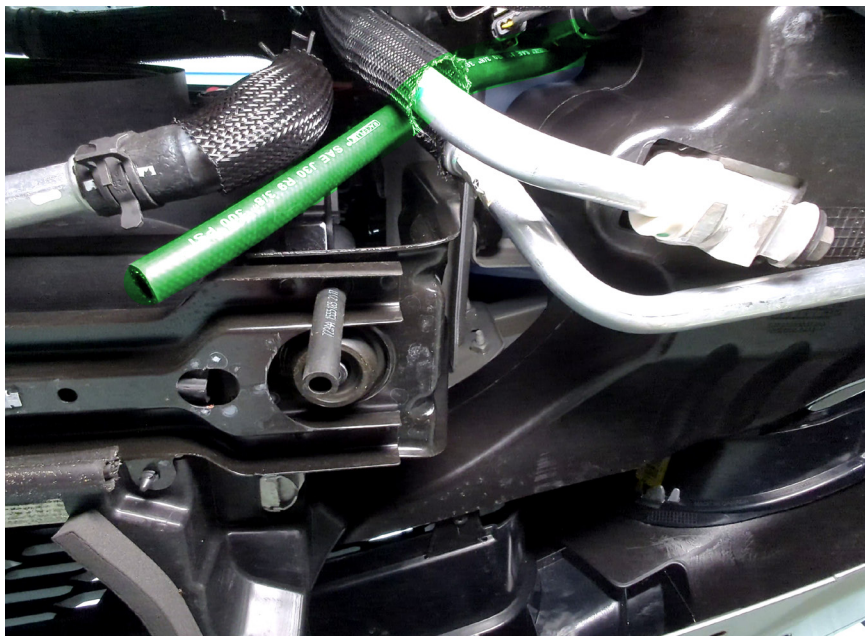

Figure 10 - Finding the Drain Hose
3. Find the catch can drain hose and position it next to the radiator drain hose as shown in Figure 10.
- 💡 Adjust/trim the catch can drain hose so the ball-valve is on the inter-cooler abrasion sleeve as shown in Figure 10.